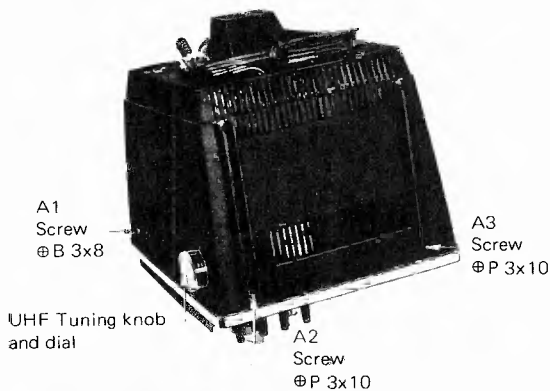

Fig. 6 Rear Cabinet Removal, step 3.
3. Remove the three screws labeled A1-3 in Fig. 6.